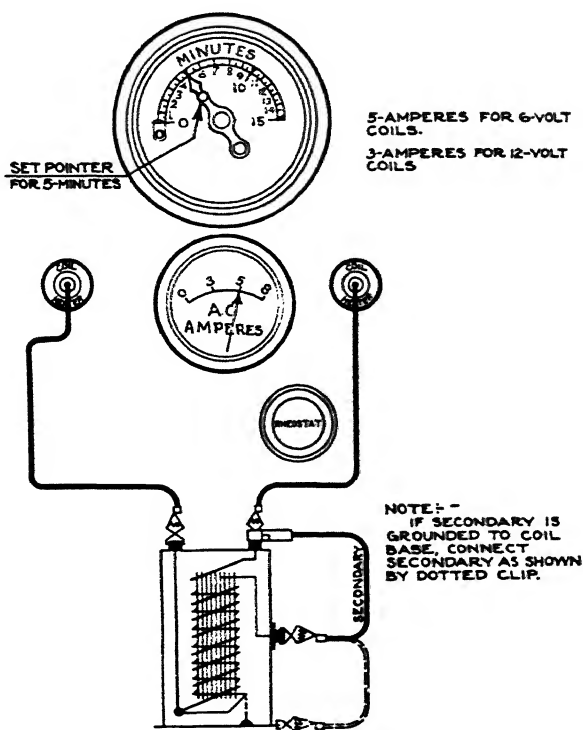

Fig. 17. Set-Up for Heating Coil
Heating Ignition Coil. Disconnect both primary wires from the ignition coil. Connect the test leads to terminals on the test panel lead marked "coil heater," Fig. 17, and to primary or low tension terminals of coil. Close the time switch by moving the lever to the right as far as it will go. This sets the switch for five (5) minutes. Set rheostat for five (5) amperes A.C. for 6-volt coils; three (3) amperes
or more. To adjust rheostat, Fig. 17, for above ampere flow, turn rheostat knob and observe ammeter which is located at top center of panel. When time switch opens and bell rings the coil is ready for test.